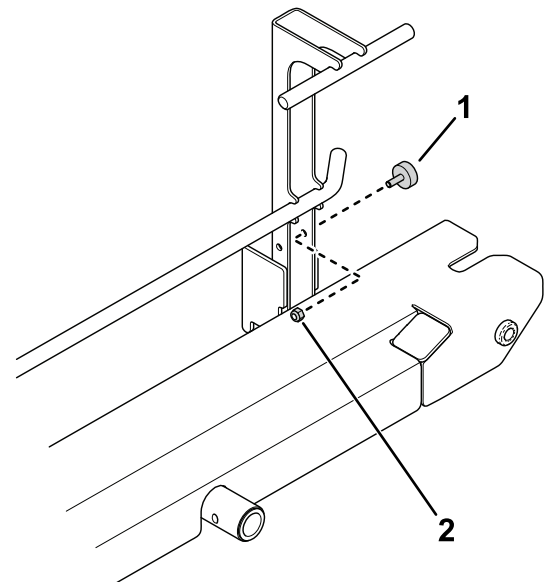

Figure 11
3. Use a nut (1/4 inch) to install a bumper to the ramp assembly (Figure 11).